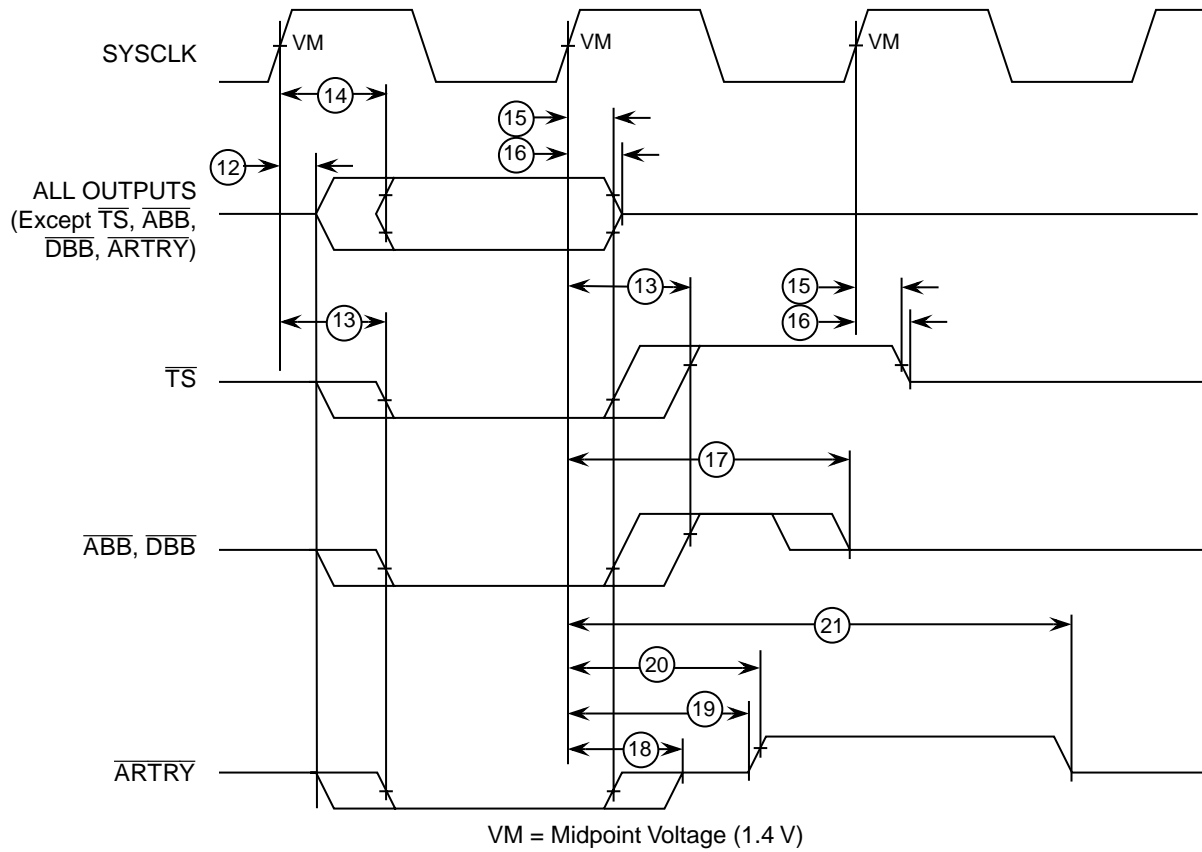

Figure 4. Output Timing Diagram
Table 9 provides the output AC timing specifications for the PID7t-603e as defined in Figure 4.
- All output specifications are measured from the 1.4 V of the rising edge of SYSCLK to the TTL level (0.8 V or 2.0 V) of the signal in question. Both input and output timings are measured at the pin (see Figure 4).
Figure 4 provides the output timing diagram for the PID7t-603e.